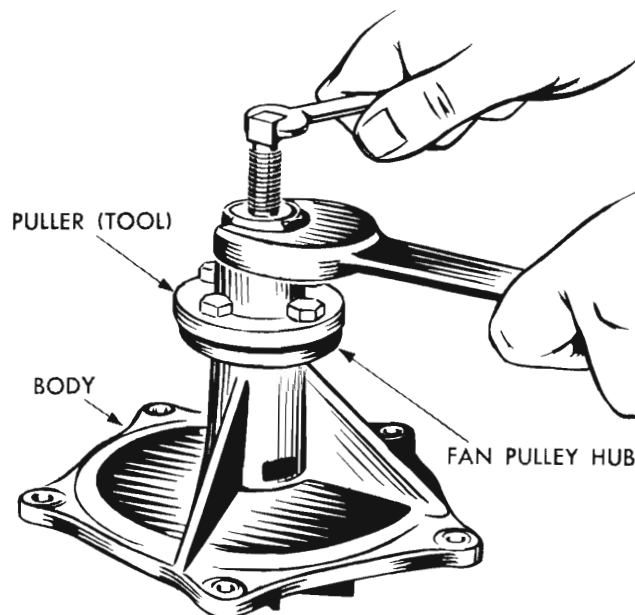

Fig. 5 - Removing the fan hub
(1) Break the plastic impeller and remove it from the metal insert.
(2) Split the sintered metal insert of the plastic impeller with a chisel and hammer.
(3) Remove the rubber portion of the seal and the spring.
(4) Using puller Tool E7C10A remove the retainer portion of the seal.
(5) Remove the fan hub using puller Tool E7C25 (Fig. 5).
(6) Support the pump body on the front face (fan hub end) and apply pressure to the rear end of the shaft to press the shaft and bearing assembly out through the front of the pump. If an attempt is made to remove the shaft in the opposite direction, damage to the pump may result.
(7) Remove any scale, clean, air dry and inspect housing.
- (1) Remove fan hub with Tool E7C25 (*Fig. 5*).
- (2) Place pump assembly with impeller down on Tool \_\_\_\_\_ and with Tool support centered on an arbor press.
- (3) Press water pump shaft, bearing, cartridge seal and impeller out of water pump housing as an assembly and discard.
- (4) Use a wire brush to remove all rust from housing and fan hub. Clean with a suitable solvent and dry with compressed air.